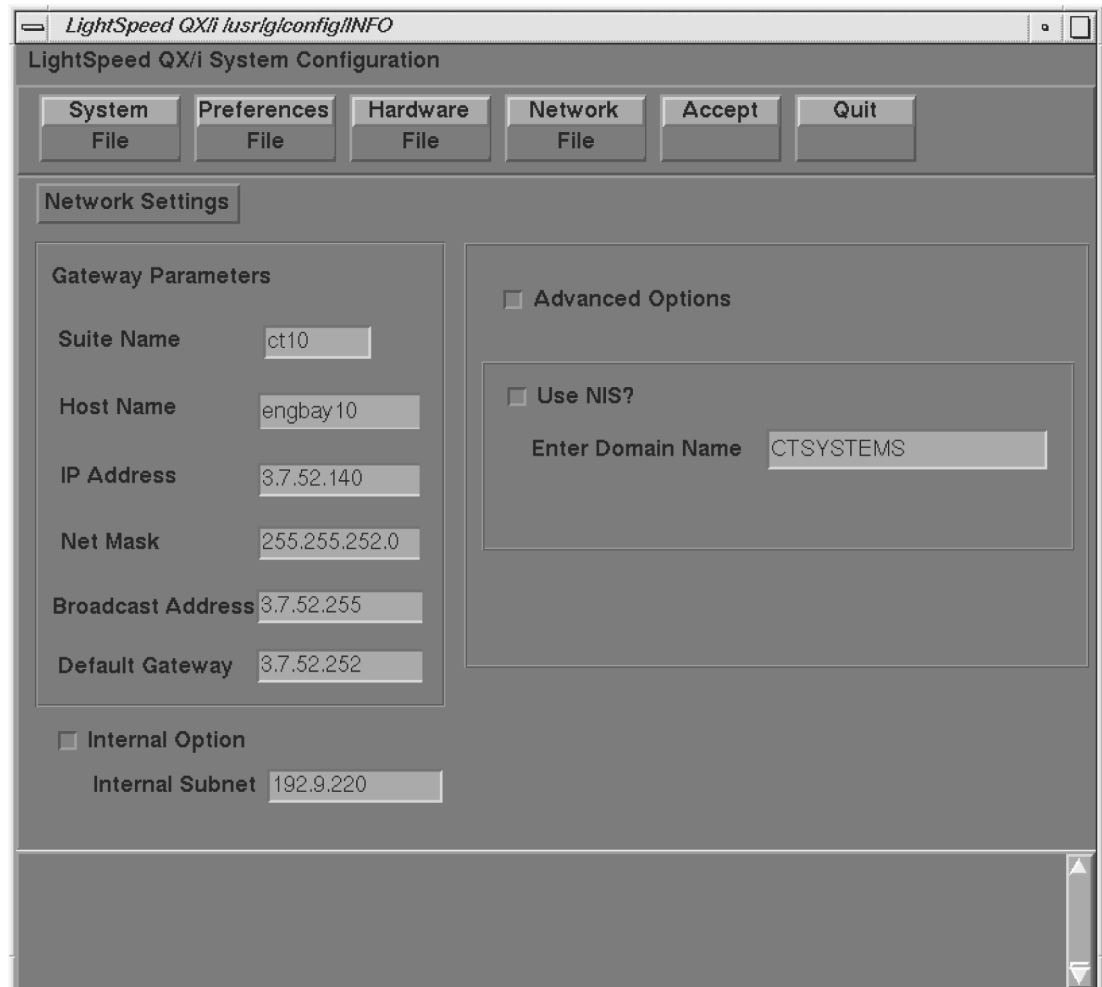

Figure 6-16 Network Settings Screen
10.) Select the NETWORK button to display the Network Settings Screen as shown in Figure 6-16.